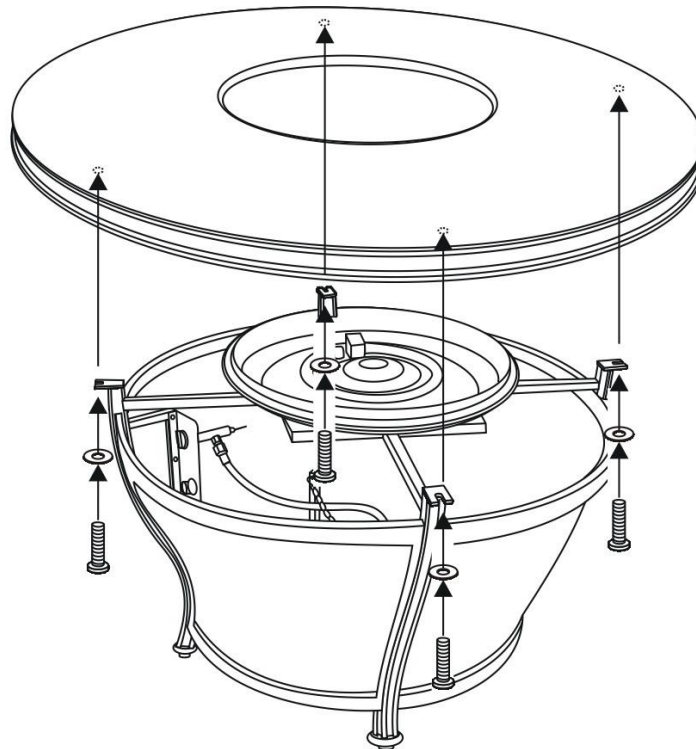

Figure 3
1. With the help of another person, carefully place the natural stone table top (**not included**) onto the table base. After making any necessary adjustments to the alignment of the natural stone table top and the top connector bracket, use bolts and washers as shown in Figure 3. Guide the bolt through the top connector bracket into the pre-drilled hole on the underside of the natural stone table top. Do not tighten completely. Repeat on other three holes of the top leg connector bracket. (Note: holes do not go through to the top of the table. Holes shown for illustration purposes only.)